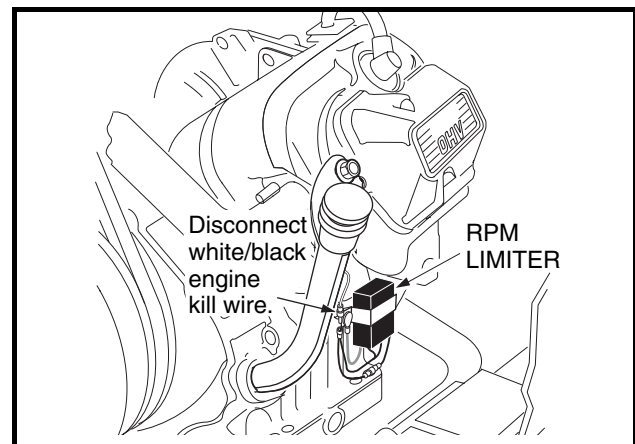

Figure 11-22 Disconnect White/Black Engine Kill Wire
- Disconnect the engine-kill white/black wire at the bullet connector located next to the RPM limiter (**Figure 11-22, Page 11-22**).
3. Disconnect white/black wire bullet connector located at the engine RPM limiter (**Figure 11-22, Page 11-22**).